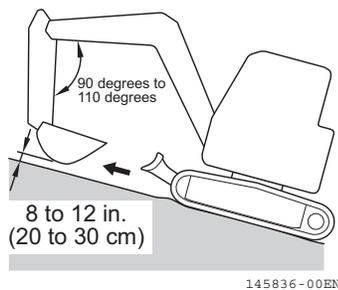

Fig. 3-46
2. When climbing a slope, drive the machine with the implement positioned as shown in the figure on **Fig. 3-46.**